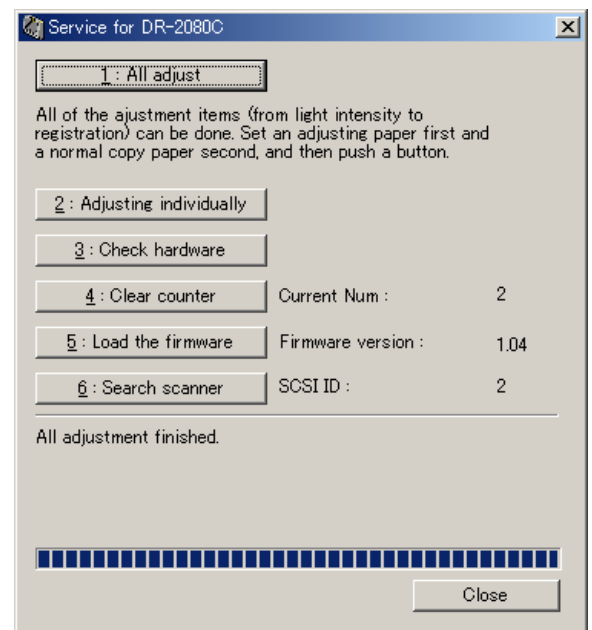

Fig.5-6
- 5) Whole process takes about three minutes. When it's finished, "All adjustment finished." appears. (See Fig. 5-6) An error message appears when a failure occurs. Please refer to Item d) in the "Notes."